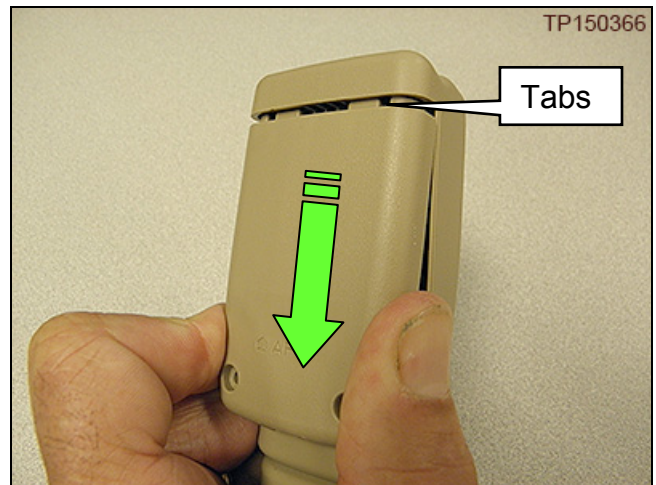

Figure 5
- b. While the bottom of the buckle cover is being held at ¼" (6 mm) from the buckle, slide the buckle cover down to clear the buckle cover tabs (tabs) from buckle (Figure 5).